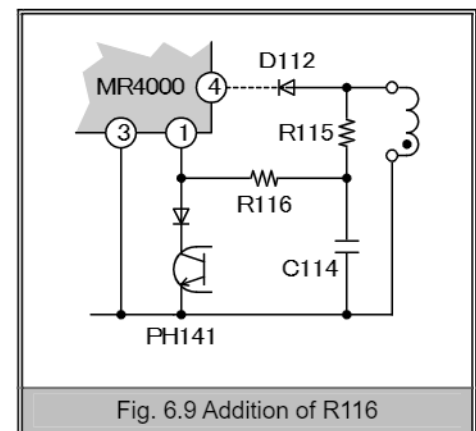

Fig. 6.9 Addition of R116
(3) Z/C pin current limiting resistor R116
If requirements 1) and 2) of Section (2) above cannot be met simultaneously, add R116 as shown in Fig. 6.9. R116 should be around 10 kΩ.